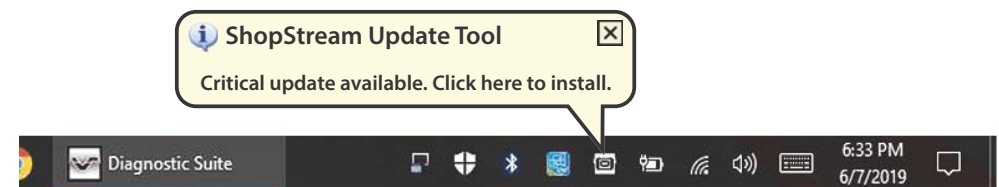

Figure 14-9 Typical upgrade installation message
1. Select the software upgrade available message (Figure 14-9), or the SST icon from the Windows taskbar notification area.